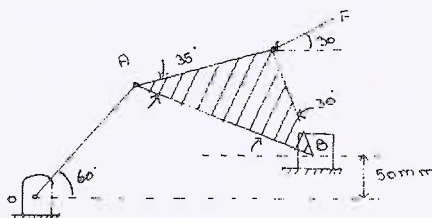

Fig. Q1 (b)
- b. For the mechanism shown in Fig. Q1 (b), find the required input torque for the static equilibrium. The length of OA and AB are 250 mm and 650 mm respectively.  $F = 500$  N. (10 Marks)